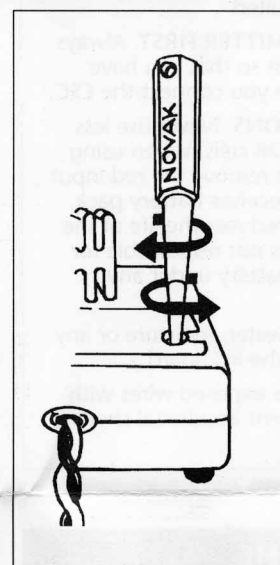

FIGURE 8 Rotate the NEUTRAL pot on the speed control until the red LED turns on.
3. Rotate the NEUTRAL pot on the speed control until the red LED turns on (FIGURE 8).